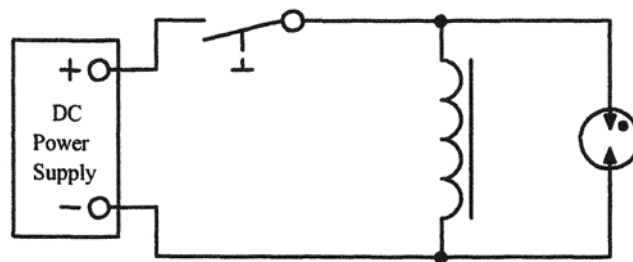

Figure 7
5. Connect the circuit as shown in Figure 7, using one coil and a neon lamp.
8. What was the approximate self induced emf developed by the coil in the circuits of Figures 7, 8 and 9?
9. If the iron core in the circuits of Figures 7, 8 & 9 was removed, what would happen to the level of the self induced emf?